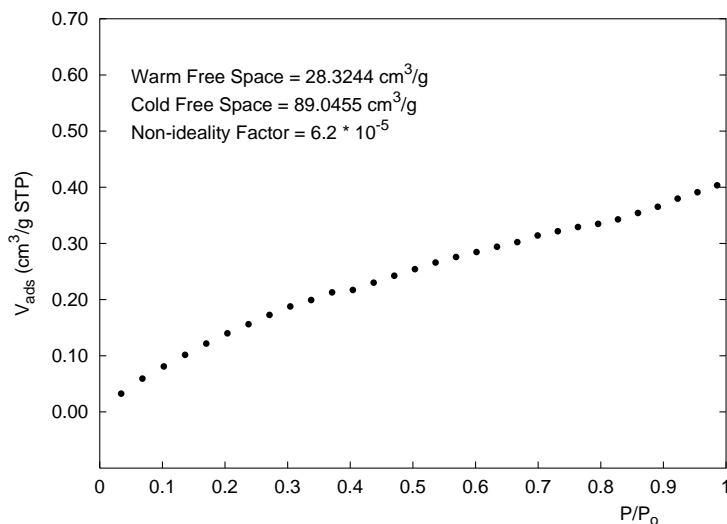

Figure 1. Example of blank tube analysis
- Perform a blank tube analysis using the sample file you created (step 2). Figure 1 is an example of a blank tube analysis.